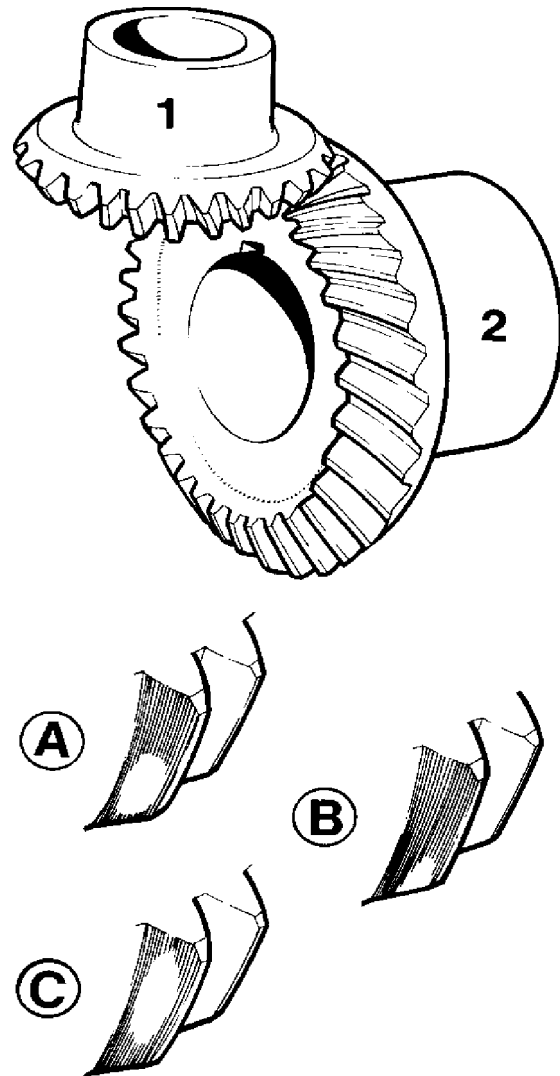

Fig. 38.
8. Check that the contact pattern on the tooth surfaces of the drive side agree with the contact pattern (A), Fig. 38. The pattern should be in the center of the tooth vertically but towards the toe. If the contact pattern is like (B), reduce the shim thickness on the vertical shaft and on the propeller shaft. If the contact pattern is like (C), increase the shim thickness for the vertical shaft and for the propeller shaft.